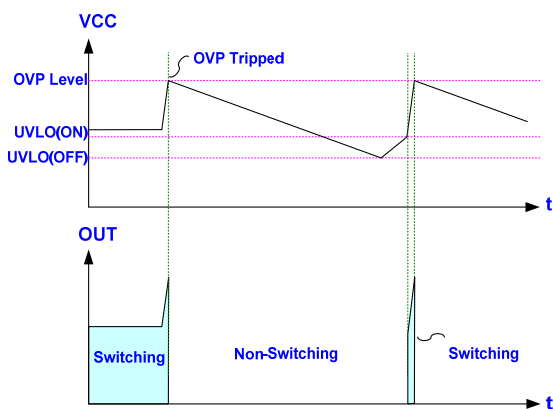

Fig. 24
LD7515A is implemented with OVP function over VCC. As the VCC voltage rises over the OVP threshold voltage, the output drive circuit will be shutdown simultaneously thus to stop the switching of the power BJT until the next UVLO(ON) arrives. The VCC OVP function of LD7515A is an auto-recovery type protection. The Fig. 24 shows its operation. On the other hand, if the OVP condition is removed, the VCC level will get back to normal level and the output will automatically return to the normal operation.